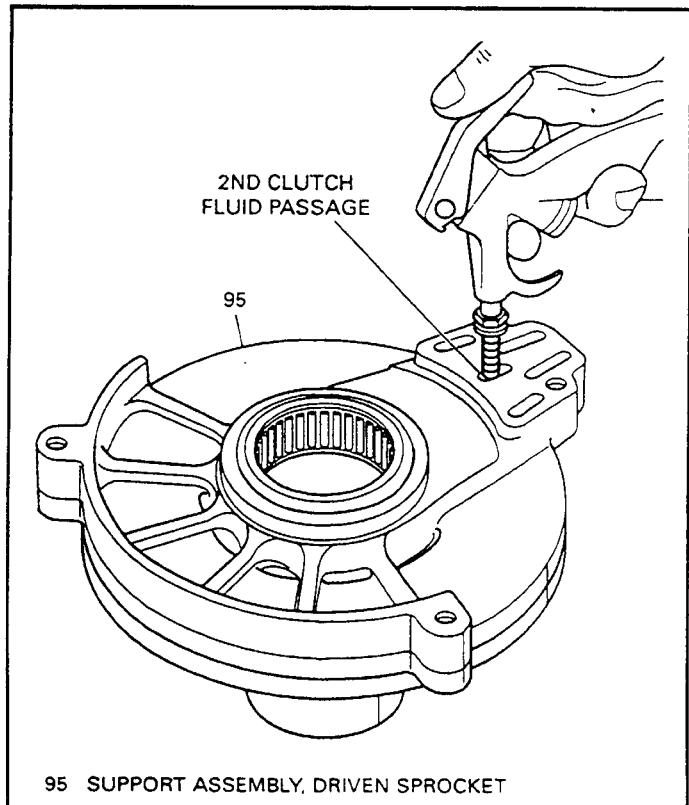

Figure 160
- Air check the 2nd clutch to verify proper operation of the seals, as shown in Figure 160.